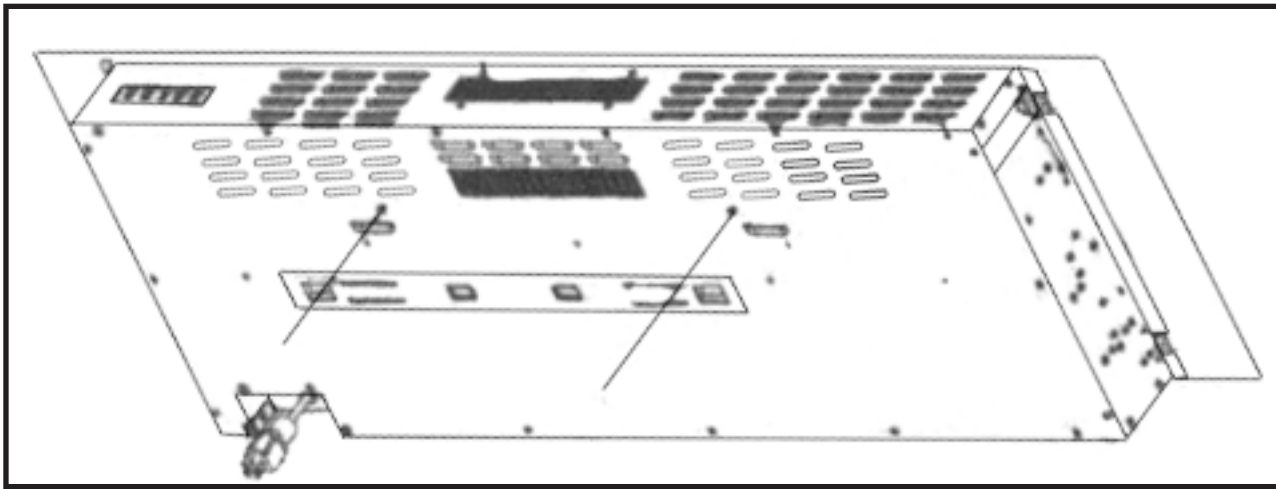

Fig. 2
- Remove the back panel from the heater first. See Fig 2